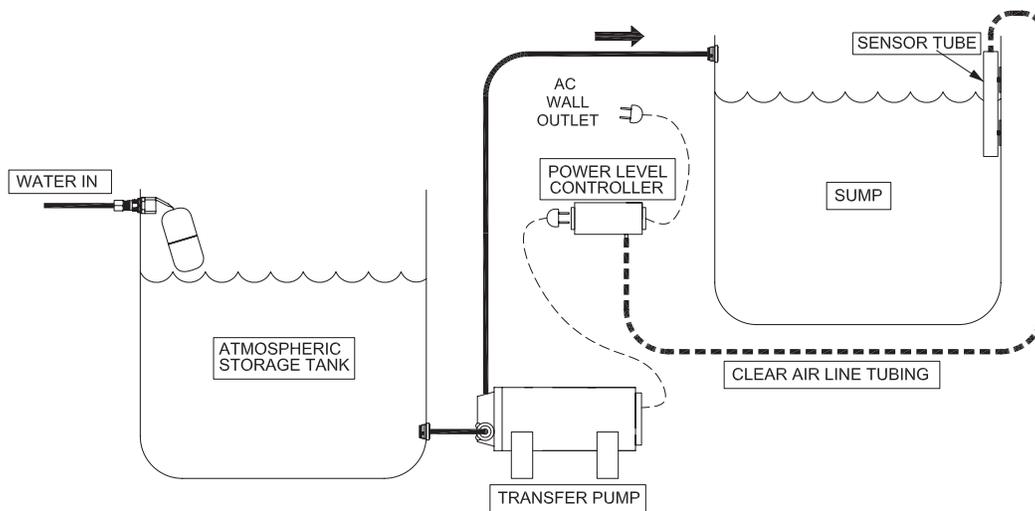

FIGURE 7: DIAGRAM INSTALLATION FOR LLC-PH
1. Connect Power Level Controller to Transfer Pump and plug into an AC wall outlet. (As shown in Fig 7)